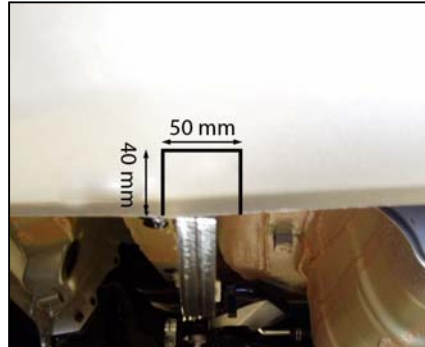

Figure 1 - Bumper cut for side arm
- e) Remove the panels on the rear bumper to access the bolts securing the bumper to the body on both driver & passenger sides as shown in figure 1.
12. Temporarily refit the rear bumper to the vehicle and mark the location of the towbar side arms. Cut the bumper at two places as shown in figures 1. Allow for 3-5mm on either side of the side arms. NOTE: Always mark location of towbar side arms from inside of bumper.